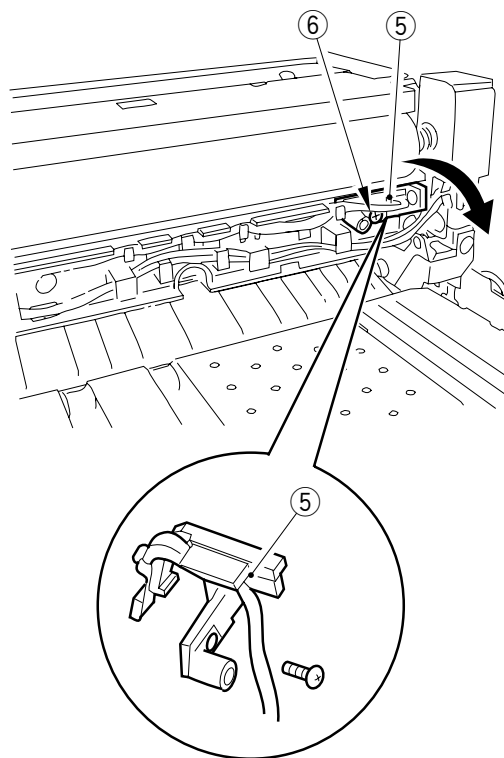

Figure 6-231
The sub thermistor cannot be replaced in the field. Replace it as part of the sub thermistor unit ⑤ shown in Figure 6-231.